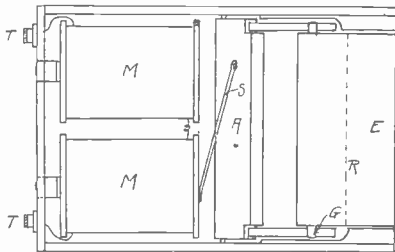

FIG. 1. MAGNETIC RELEASE LOCK—
*Answer.*—In Figs. 1 and 2, the interior parts of a magnetic release lock are shown. Similar parts are lettered alike in all figures.